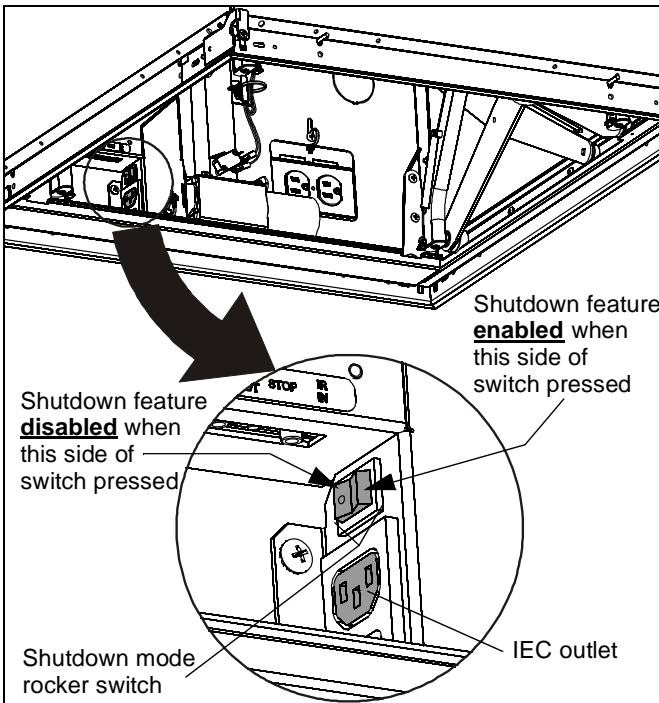

Figure 26
By default, this feature is disabled. To enable or disable this feature, use the rocker switch directly above the IEC outlet. To **enable** depress the blank side of rocker switch. To **disable** depress the white dot side of rocker switch. The projector MUST be plugged into the IEC outlet in order for this feature to function. (See Figure 26)
NOTE: Projector MUST be plugged into the IEC outlet located within the lift. (See Figure 26)
2. Make sure Projector Shutdown Mode is disabled. (See Figure 26)